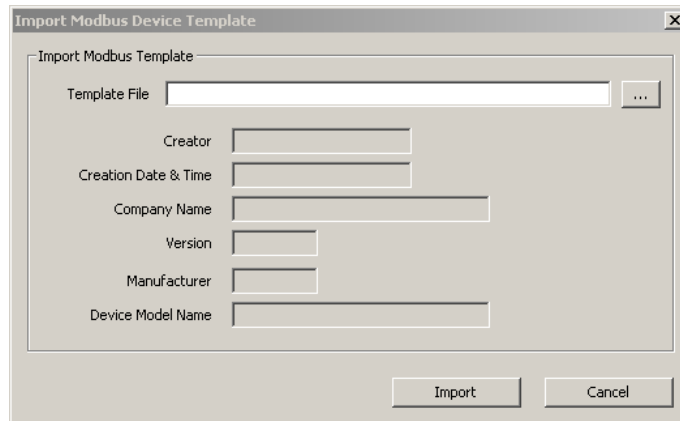

Figure 105 Import Device Template dialog.
2. This opens the **Import Modbus Device Template** dialog shown in Figure 105.